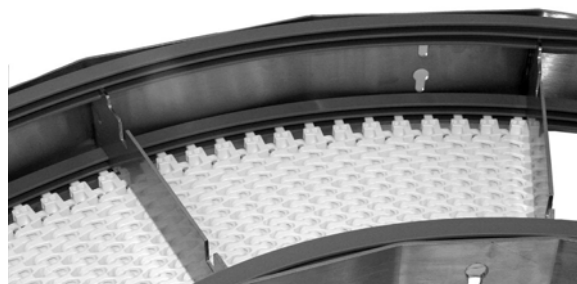

Figure 25
4. Feed the ends of the belt through the top and bottom of the curved frame sections (Figure 25).